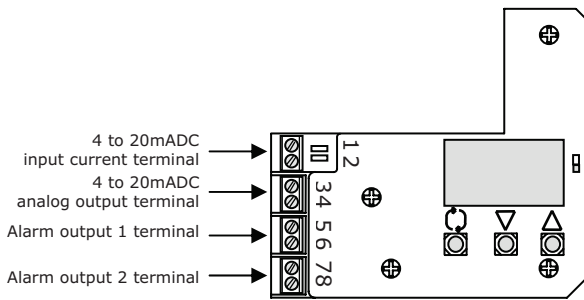

Fig. 8
- (1) Remove the positioner body cover.
- (2) Connect input current wiring from an adjusting meter (controller) and each output wiring following Fig. 8.